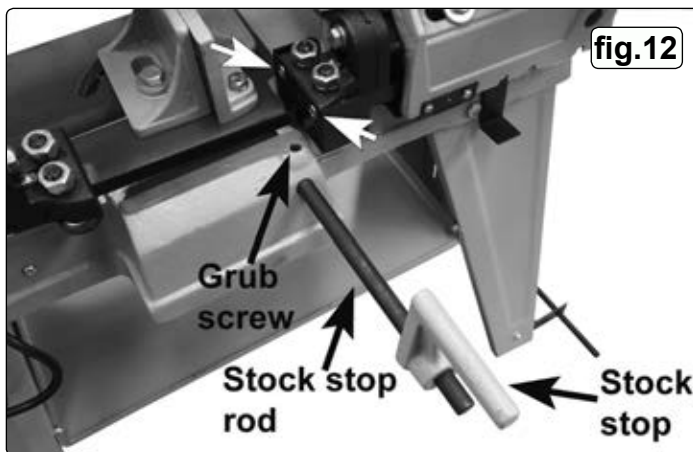

fig.12
4.6.1. Fit the stock stop rod (21) into the base and secure with the grub screw. Fit the stock stop (19) and secure with screw (20), see fig.12.
- 6.2.4. Remove the two screws (68) from the end face of the lower blade guide, see white arrows in fig.12, remove blade guard (69) and replace with table (55) and its support (56). Loosen the lower blade guide nut and washer sufficiently to allow the slotted end of the support to pass between the washer and body frame and then retighten the nut. Retain table by replacing screws (68), see fig.19.